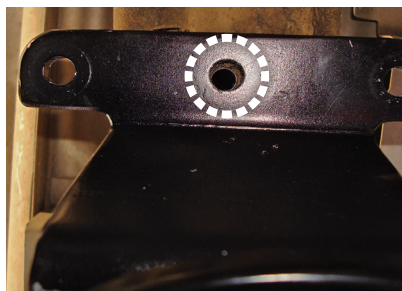
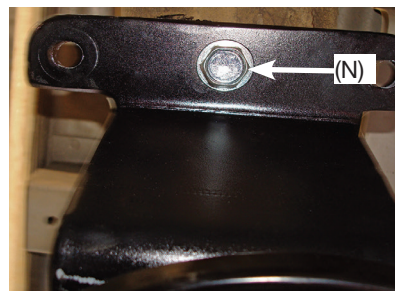

Fig. 23
Fig. 24
- Center the upper bracket in the middle of the frame rail, make sure there is sufficient clearance between the fitting and the stock jounce bumper cup, and drill a 5/16" hole in the frame using the center hole in the front side of the upper bracket as a template (fig. 23). Install the washer-head self-tapping screw (N) in the hole (fig. 24). Torque to 15 lb.-ft. (20Nm). Repeat for the other side.